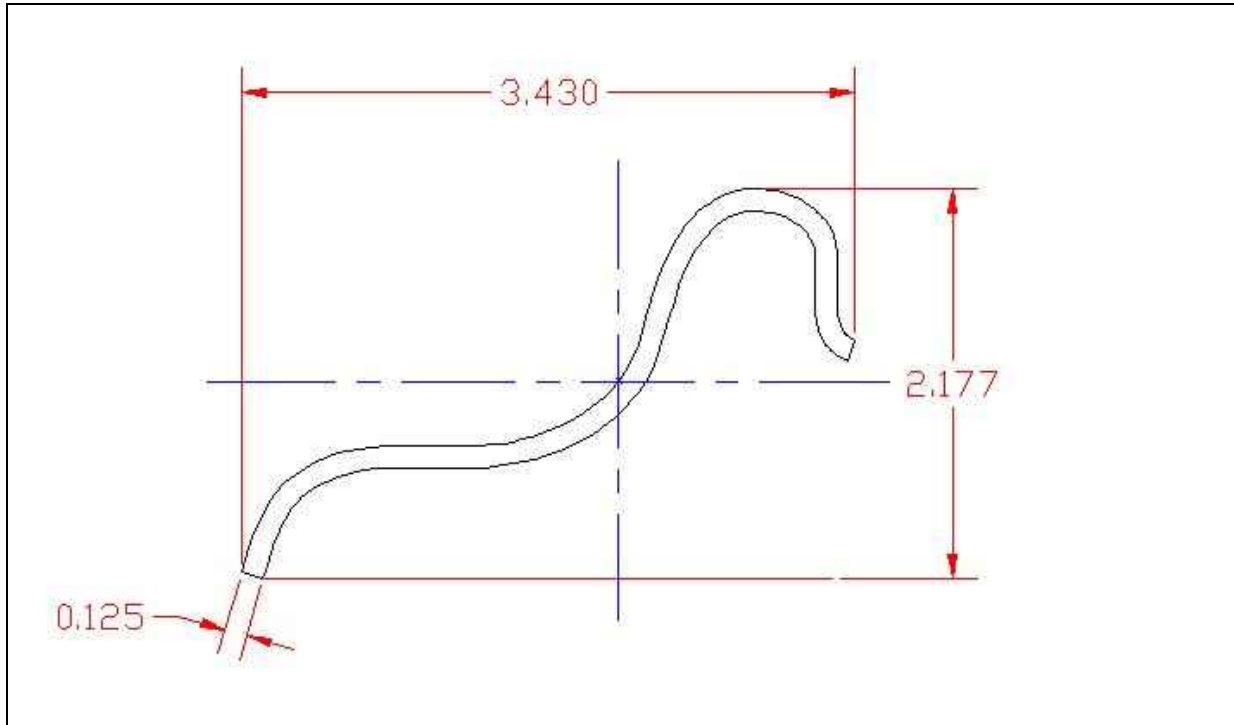

Figure 11.15 – An Irregular Shape
The next exercise is to compute the Moment of Inertia for a shape that has a complex curve. We would find the task difficult even using formula provided in any engineering handbook. A part like the one shown in Figure 11.15 would require Calculus to find the Moment of Inertia.
Using the Spline tool on the Draw toolbar, we will draw a curved line similar to the one shown in Figure 11.15. Offset the spline 1/8 of an inch and connect both splines with straight lines
*** World Class CAD Challenge 10-33 * - Open a new file in your CAD program. Make a drawing of the irregular shape in Figure 11.15 with a thickness of 0.125. Dimension the shape. Insert a border, title block and manufacturing notes. Show the center of gravity on the drawing. Include in the notes section the engineering data on the print displaying the cross sectional area, the perimeter and the Moment of Inertia. Complete the drawing in 15 minutes and save the drawing as irregularshape.dwg to maintain your World Class ranking.**